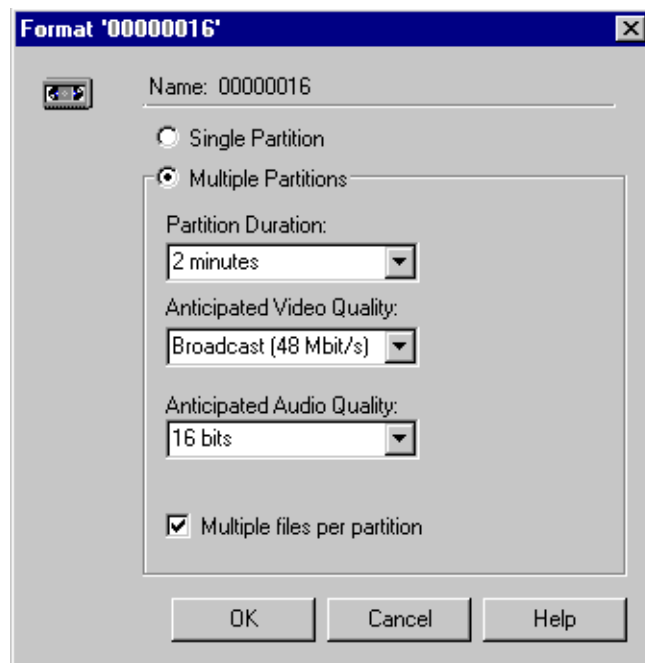
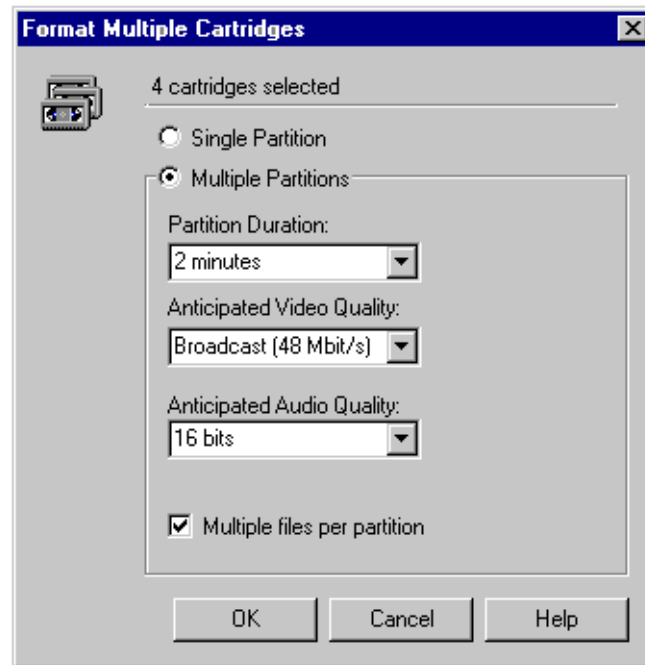

Figure 66. Format Cartridge dialog box
Figure 67. Format Cartridge dialog box
2. Choose **Format** from the **File** menu or from the shortcut menu with a right-click. The Format dialog box appears (see Figure 66). The Name field shows the name or names of the cartridges to be formatted. If more than one cartridge is selected, the number of cartridges is shown (see Figure 67).